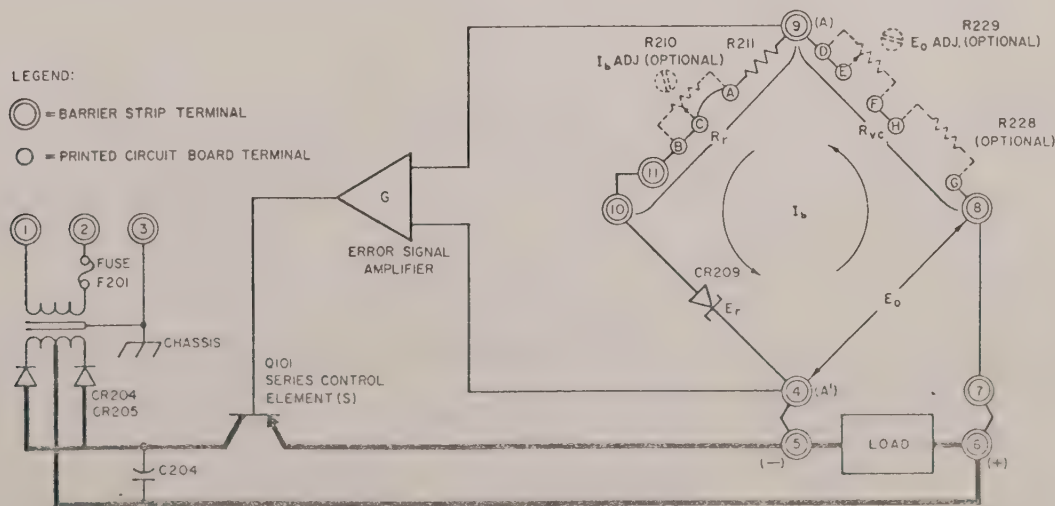

FIG. 4-1 PAX POWER SUPPLY MODULE FEEDBACK REGULATOR SYSTEM (SIMPLIFIED SCHEMATIC)
(Refer to Fig. 4-1 and Main Schematic)
PAX Model it consists of CR209 (E_r), R211 (R_R), the output voltage (E_o), and the voltage control resistance (R_{vc}) which is to be applied externally between terminals (8) and (9) on the front barrier strip. As shown in Fig. 4-1, a reference voltage (E_r) in series with the reference resistance (R_R) is continuously compared with the output voltage (E_o), in series with the voltage control resistance, R_{vc} . At balance, a constant bridge current (I_b) is flowing through the bridge, keeping the error signal at bridge terminals A and A' at approximately zero volts. Any deviation from the set output voltage will tend to change I_b in the sensing half of the bridge and thereby produce an error signal at the bridge terminals A and A'. This error signal is then amplified and acts as a control signal for the series regulator transistor, changing the voltage drop across it in such a way as to compensate for the change in output voltage.